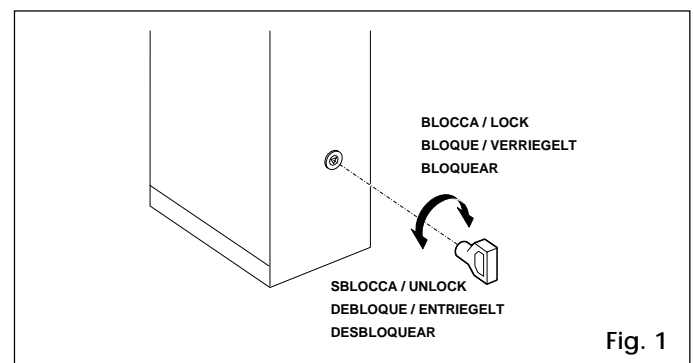
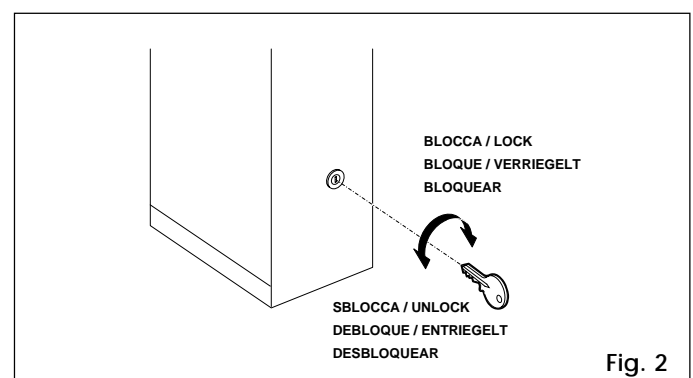

Fig. 1
Fig. 2
- Insert the standard key (fig. 1) or the personalised key (fig. 2) in the lock and **turn anticlockwise** by one revolution.
4.2 J1 Terminal-board - Accessories (Fig.2) 5
4.4 J8 Connector - Motor capacitor (Fig.2) 5
4.8 J11a,b,c Connector - Quick-fit connector for external loop detector (Fig.2) 6